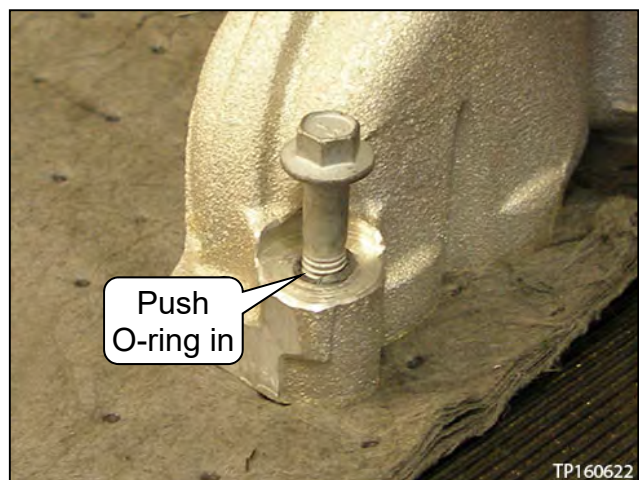

Figure 82
- Push down enough for the O-rings to hold the bolts in place, but not enough for the bolts to stick out the bottom (see Figure 82).